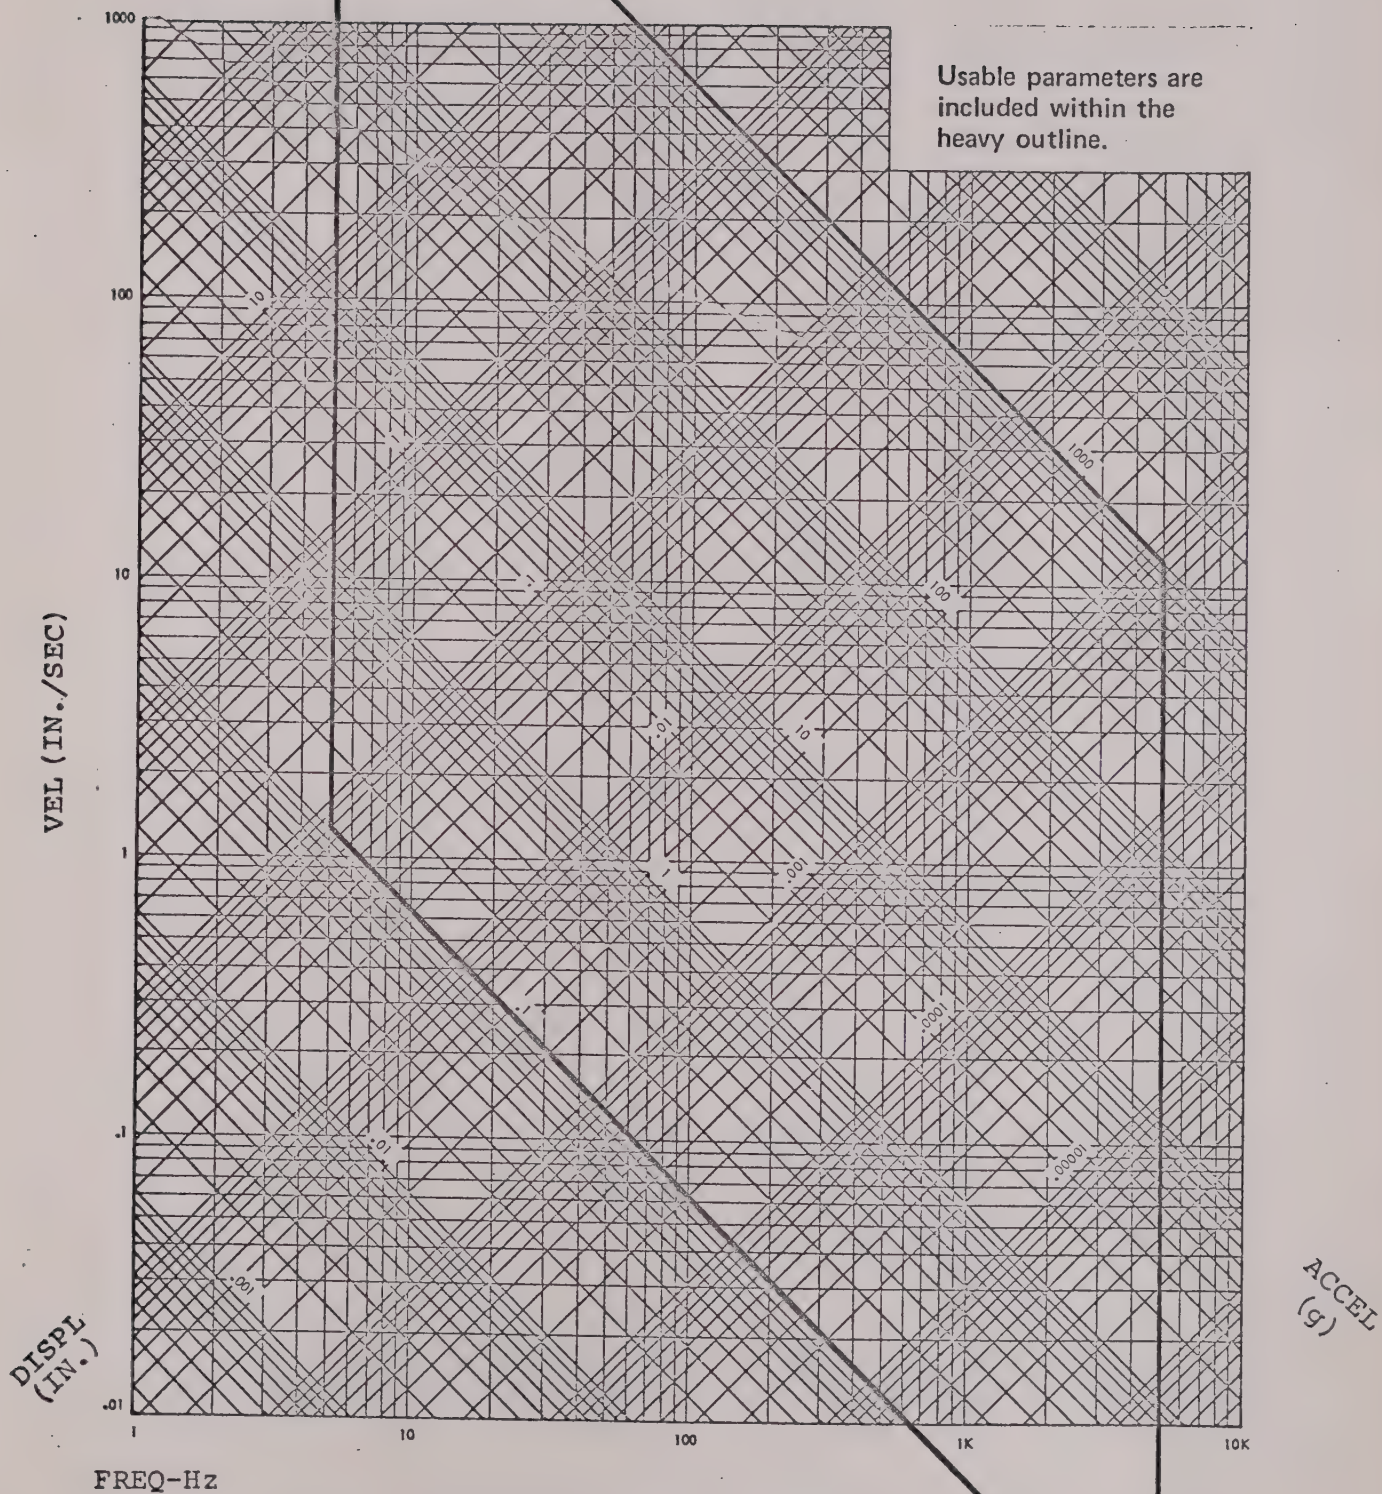

Figure 2-3. Acceleration Parameters
- a. Outline the operational program by listing the desired A-V-D and ACCEL levels (if both are applicable), the computed crossover frequency (if applicable), the sweep frequency range (upper and lower limits), sweep rate, and compressor speed and speed limit. The usable A, V, and D parameters are included within the heavy outlines on the graphs of Figures 2-3, 2-4, and 2-5.